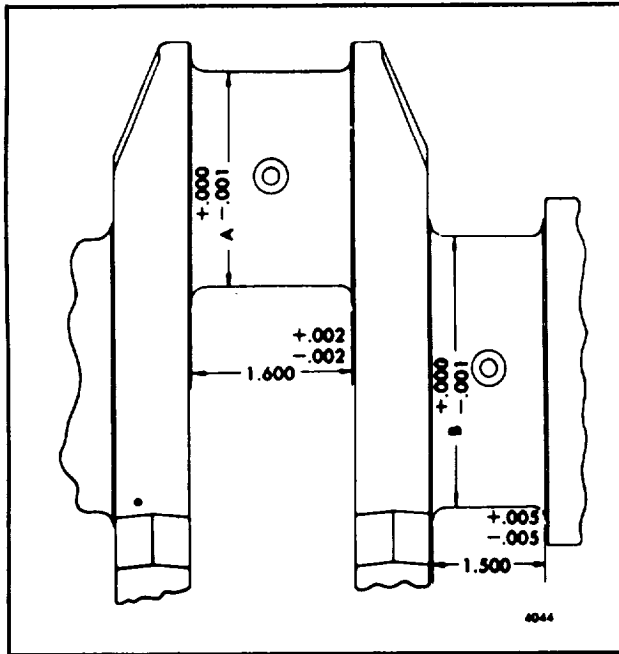

Fig. 7 Dimensions of Crankshaft Journals .
Measure all of the main and connecting rod bearing journals (Fig. 7). Measure the journals at several places on the circumference so that taper, out-of-round and bearing clearances can be determined. If the crankshaft is worn so that the maximum connecting rod journal-to-bearing shell clearance (with new shells) exceeds .0045 " (In-line engine)
1. Compare the crankshaft journal measurements taken during inspection with the dimensions in Table 1 and Fig. 7 and determine the size to which the journals are to be reground.